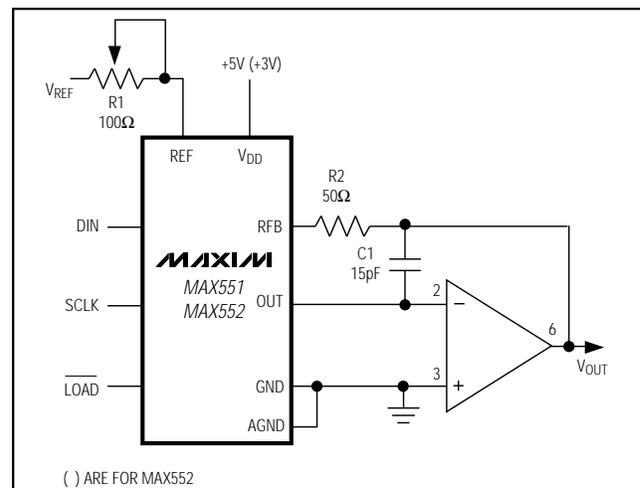

Figure 3. Unipolar Operation
The output current ( $I_{OUT}$ ) can be converted into a voltage by adding an external output amplifier (Figure 3). The REF input accepts a wide range of signals, including fixed and time-varying voltage or current inputs. If a current source is used at the reference input, use a low-tempco, external feedback resistor in place of the
**Table 1. Unipolar Binary-Code Table for Circuit of Figure 3**
Figure 3 shows the MAX551/MAX552's basic application. This circuit is used for unipolar operation or 2-quadrant multiplication. The code table for this mode is given in Table 1. Note that the output's polarity is the opposite of the reference voltage polarity.
In many applications the gain accuracy is sufficient and gain adjustment is not necessary. In these cases, resistors R1 and R2 in Figure 3 can be omitted. If the gain is trimmed and the DAC is operated over a wide temperature range, use low-tempco (<300ppm/°C) resistors for R1 and R2. Capacitor C1 provides phase compensation and reduces overshoot and ringing when fast amplifiers are used at the DAC's output.
An advantage of voltage mode operation is that a negative reference is not required for a positive output. Note that the reference input (OUT) must always be positive and is limited to no more than 2V when  $V_{DD}$  is 5V. The unipolar and bipolar circuits in Figures 3 and 4 can be converted to voltage mode.